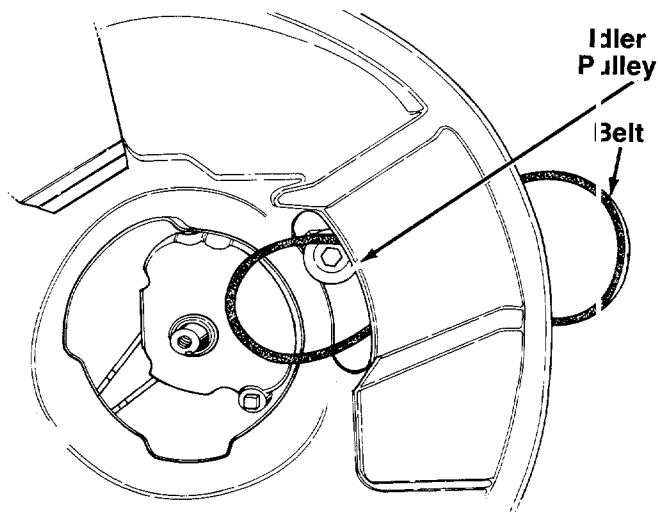

FIGURE 28.
- A. Push the idler pulley up out of the way as shown in figure 28.
- B. Slide the belt in from the rear of the deck, and place it around the transmission pulley. See figure 28.